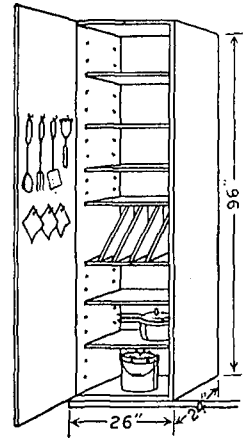

FIG. 9. Storage cabinet at cooking center
**At the Cooking Center.** The cupboard illustrated in figure 9 provides storage for seasonings, coffee, coffee pot, hot pan holders, matches, saucepans, covers,